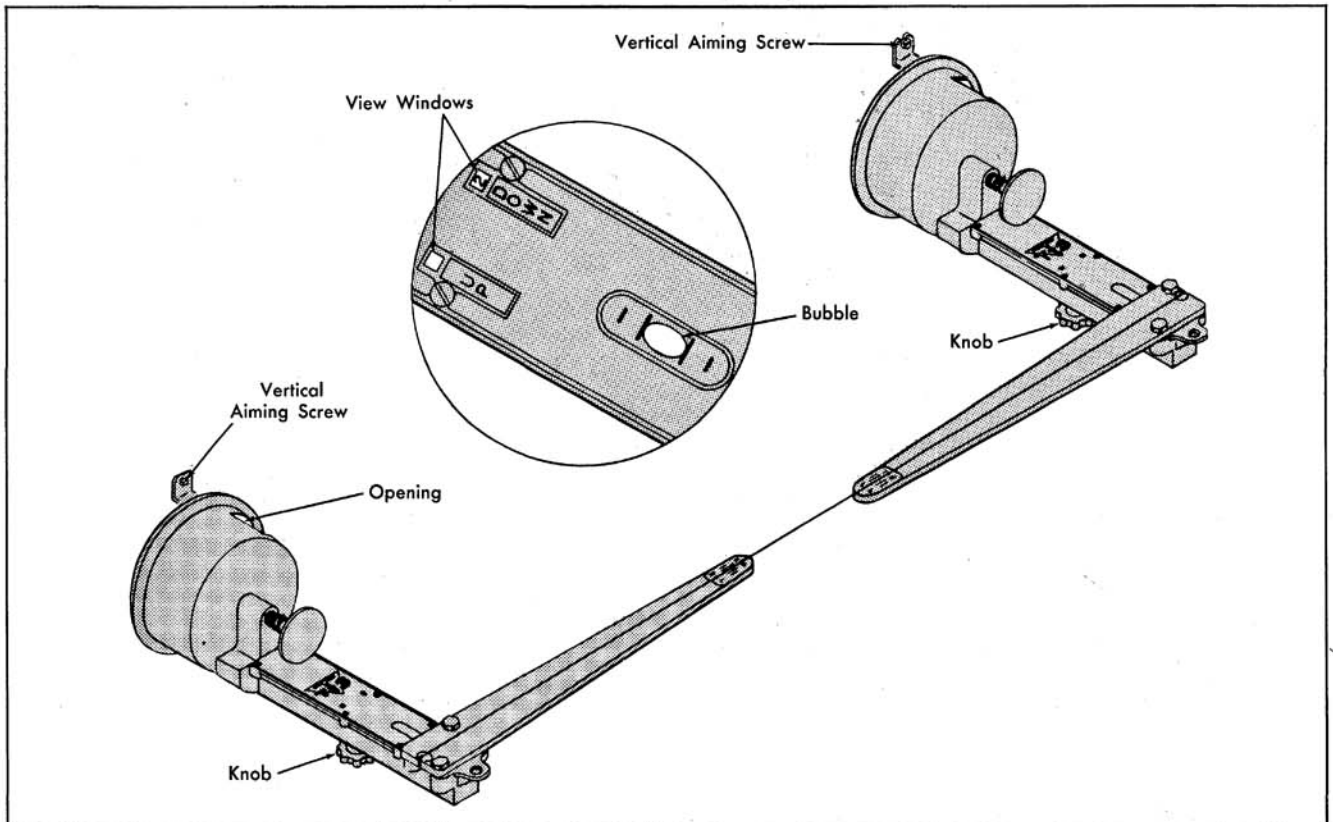

Fig. 13-90 Vertical Aim
- a. Loosen knob "O" on both aimers and move slide until numeral "2" appears in "down" view window. Tighten knobs. (Fig. 13-90)